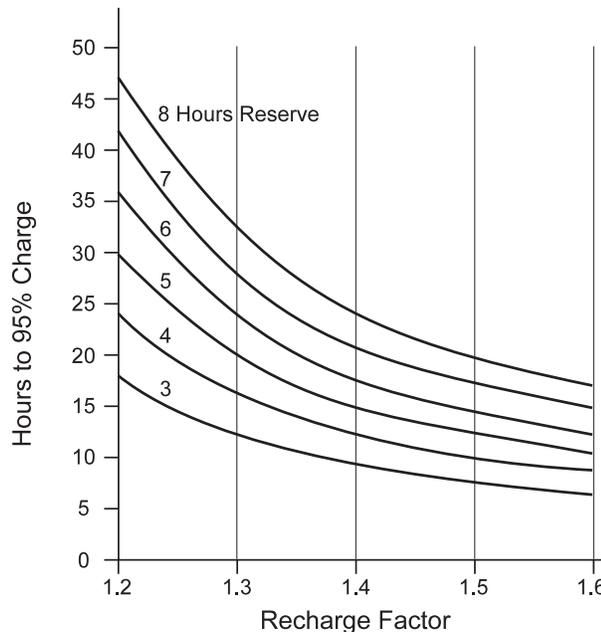

Figure 3-1: Recharge Factor vs. Recharge Time
The battery recharge current is determined by two system considerations: the maximum time the system is required to operate in the absence of ac power (reserve time), and the time allocated to recharge the battery after ac power returns. These two times and Figure 3-1 may be used to determine the recharge factor. This factor, when multiplied by the average busy-hour current, determines the minimum installed rectifier capacity, or:
From Figure 3-1, the recharge factor is 1.38.
2. A two-shelf battery plant is required to provide a load current of 85 amperes, have a 5-hour discharge time (reserve time) and recharge to 95% of battery capacity in 24 hours. Determine the number of 12.5 ampere rectifiers required for non-redundant and redundant systems. From Figure 3-1, the recharge factor is approximately 1.25.
- Figure 3-1 illustrates several general guidelines for choosing the recharge factor.